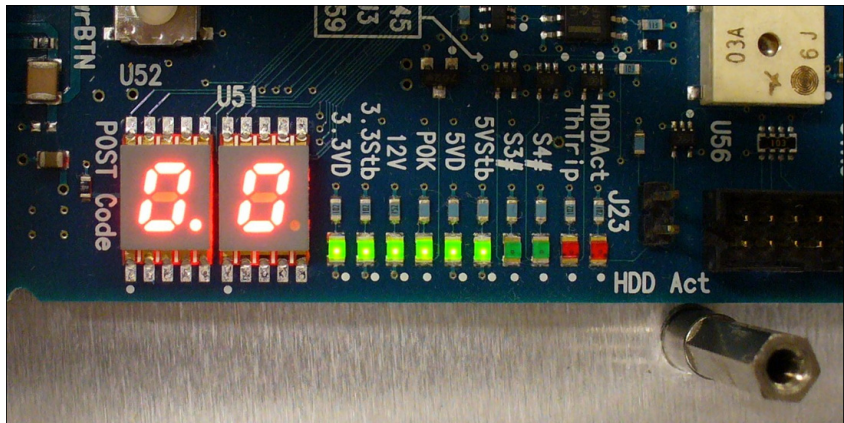

Figure 4 LEDs on CPU module
- +3.3 V and +5 V DC monitor LEDs on A60 CPU module as shown in Figure 4.